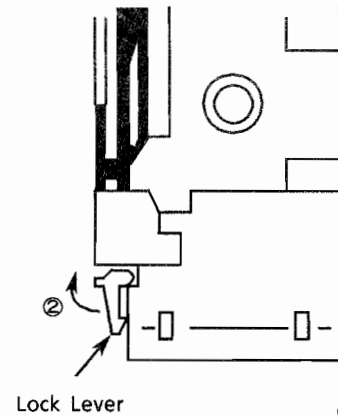

Fig.5
1. When installing the lift cam, Put the cam slider to the position shown in fig 5.